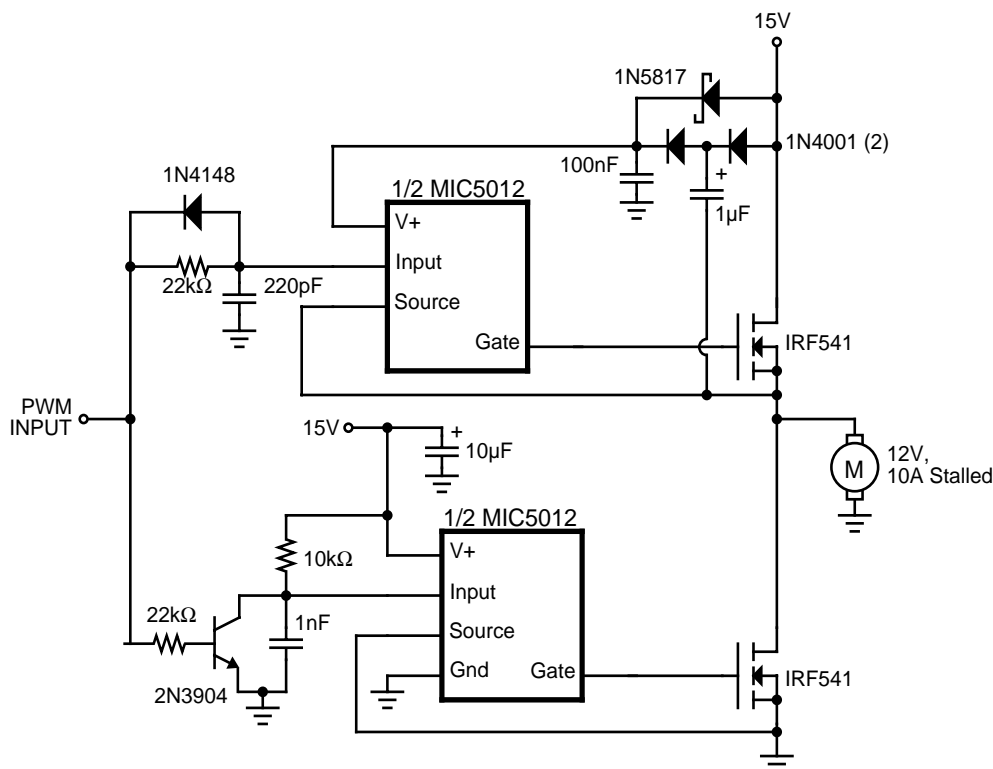

Figure 6. Half-Bridge Motor Driver
Since the supply pins are independent, the two drivers contained in the MIC5012 can be operated from separate supplies of different values (see Figure 6).
**Half-Bridge Motor Driver** (Figure 6). Closed loop control of motor speed requires a half-bridge driver. This topology presents an extra challenge since the two output devices should not cross conduct (shoot-through) when switching. Cross conduction increases output device power dissipation. Speed is also important, since PWM control requires the outputs to switch in the 2 to 20kHz range.
The circuit of Figure 6 utilizes fast configurations for both the top- and bottom-side drivers. Delay networks at each input provide a 2 to 3μs dead time effectively eliminating cross conduction. Two of these circuits can be connected together to form an H-bridge for locked antiphase or sign/magnitude control.